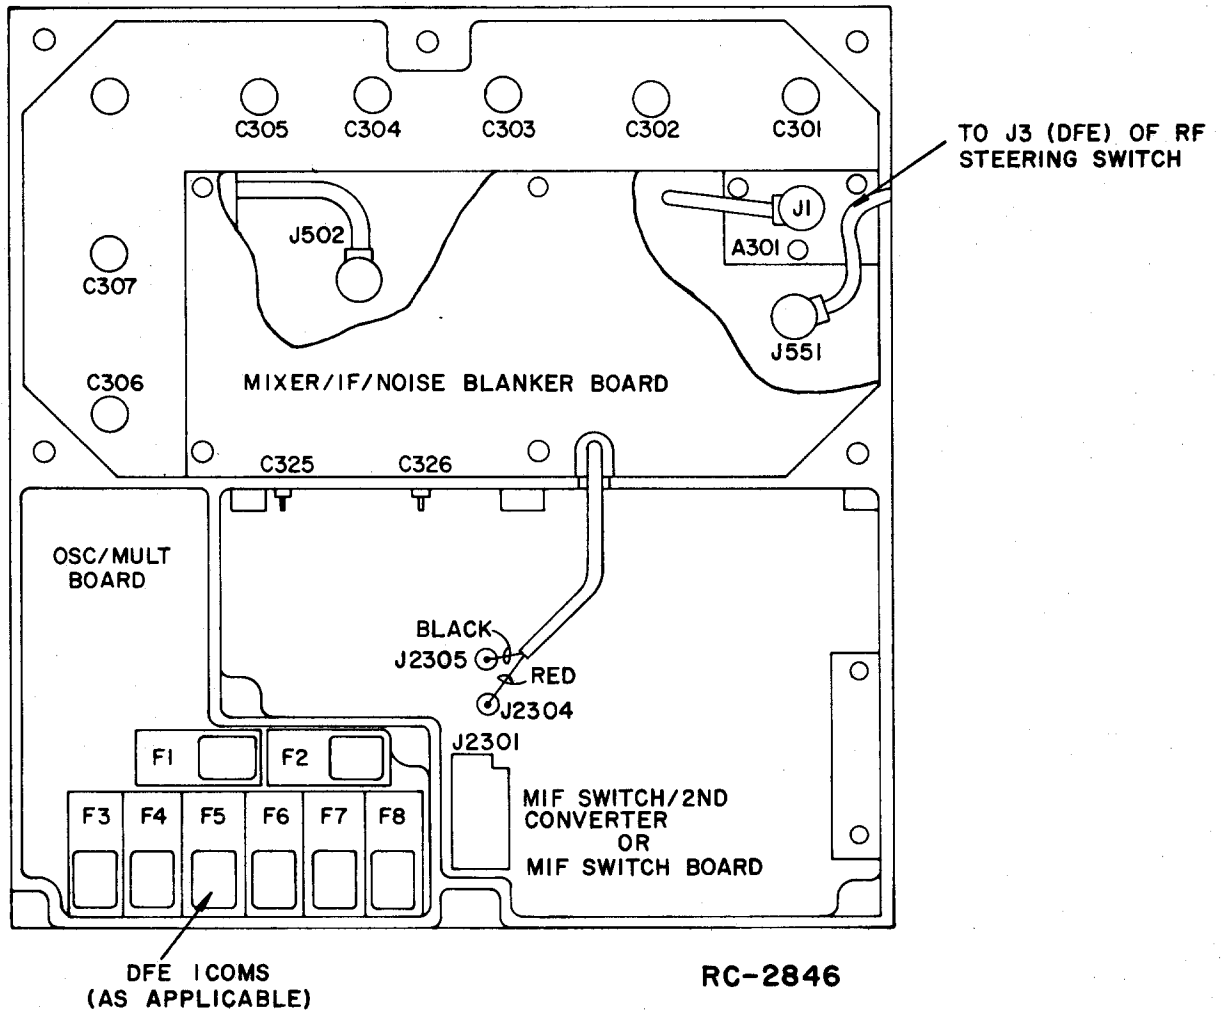

Figure 3 - Receiver Module Location
4. Removal of the modules or board assemblies from the DFE is essentially the same as for a standard Receiver. Refer to Figure 3 for receiver module location and to the standard Receiver Maintenance Manuals for removal procedures.